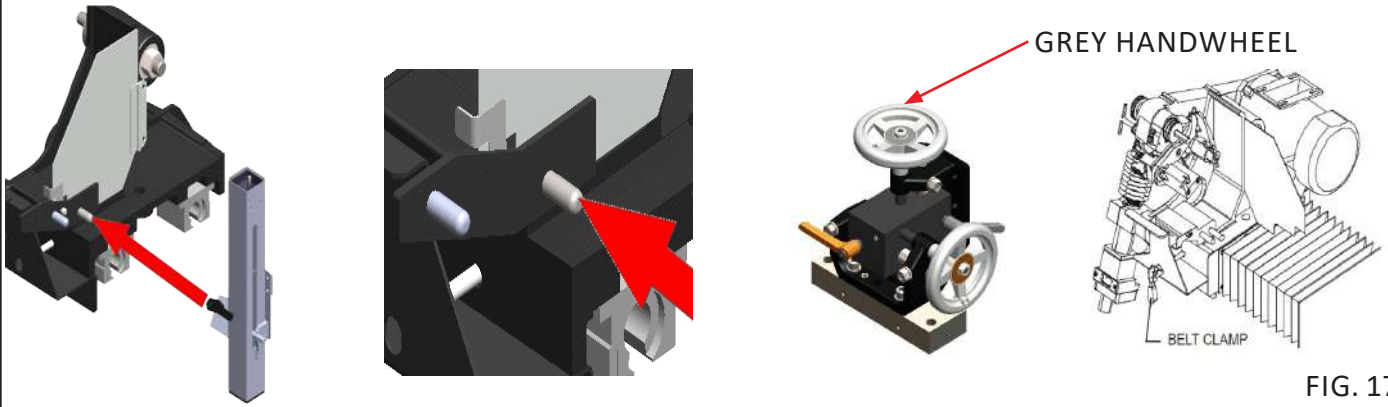

FIG. 17
1. Release the TRAVERSE LOCK handle (FIG. 17) and move the GRINDING CARRIAGE to the left side of the cutting unit until the decal on the ACCU-POSITIONING GAUGE aligns with the decal on the tooling bar (see FIG. 19). The TRAVERSE LOCK RELEASE ARM is located at the front of the carriage under the TRAVEL LIMITS BRACKET. Rotate the release arm UP to release and DOWN to engage (see FIG. 17).